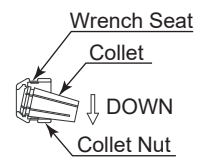
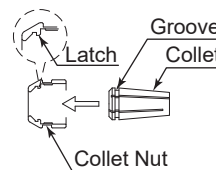
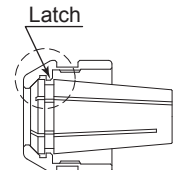

Fig. 5
Fig. 6
Fig. 7
- ② The collet and collet nut are secured by a groove in the collet and a flange in the collet nut. To remove the collet hold the collet nut in one hand and push diagonally down on the collet. The collet should be released (Fig. 5).
- ③ To install the collet, hold the collet at a slight angle, and insert it into the collet nut (Fig. 6). Press the collet in the collet nut by positioning the collet in the collet nut and pressing down on flat surface (Fig. 5). Be sure to fully engage the latch inside the collet nut into the groove on the collets outer circumference area (Fig. 7).